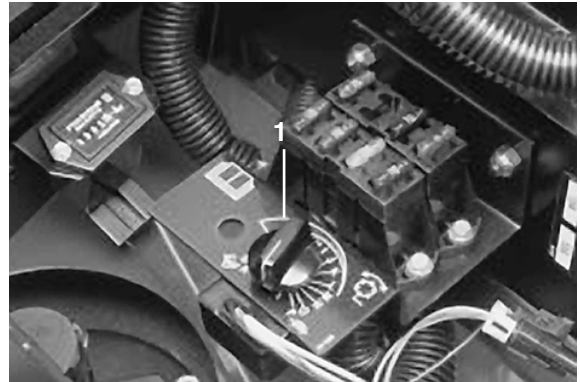

Figure 17
3. Open the control cover and turn the height-of-cut selection knob to position “P” (Fig. 17).